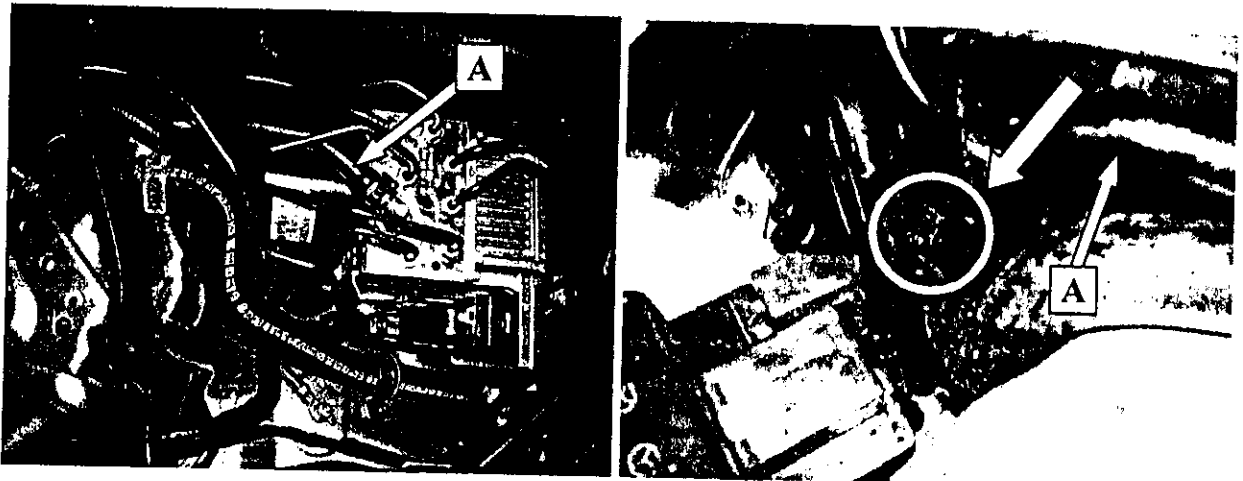

Figure 2 - Hose clamp at transition of suction hose to suction line
3. Completely replace suction hose (A) (see Figure 2). To do this:
- Loosen hose clamp at transition of suction hose to suction line (see Figure 2).